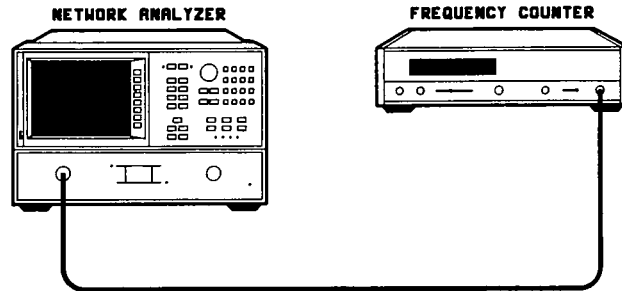

Figure 11. Frequency Range and Accuracy Test Setup
1. Connect the equipment as shown in Figure 11 and press **[PRESET] [MENU] [CW FREQ]**.